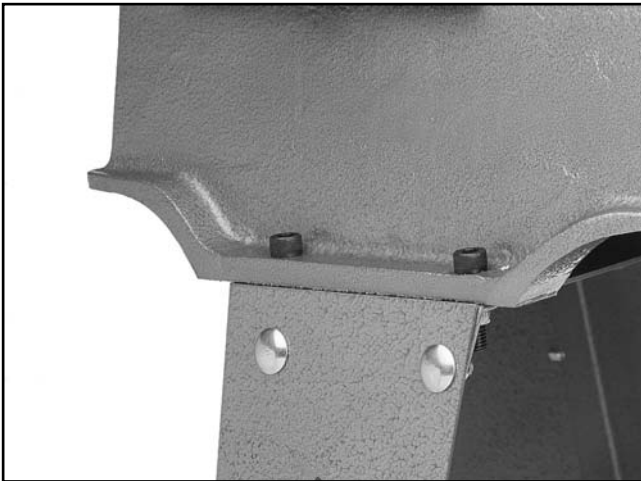

Figure 4.
4. With an assistant, set the lathe bed assembly on the stand, orienting the front of the headstock with the switch opening in the stand leg. Bolt the lathe bed to the stand using the eight $\frac{5}{16}$ "-18 x 1 cap screws and hex nuts supplied and tighten down (**Figure 4**).